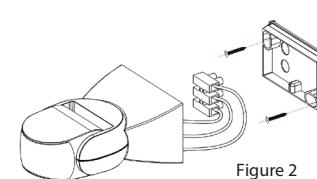

Figure 2
- Fix the bottom with inflated screw on the selected position (refer to the figure2).